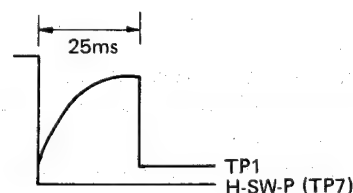

Figure 45
3. Selecting (-) sync slope with the oscilloscope, adjust R7744 to meet the requirement given in Figure 45.